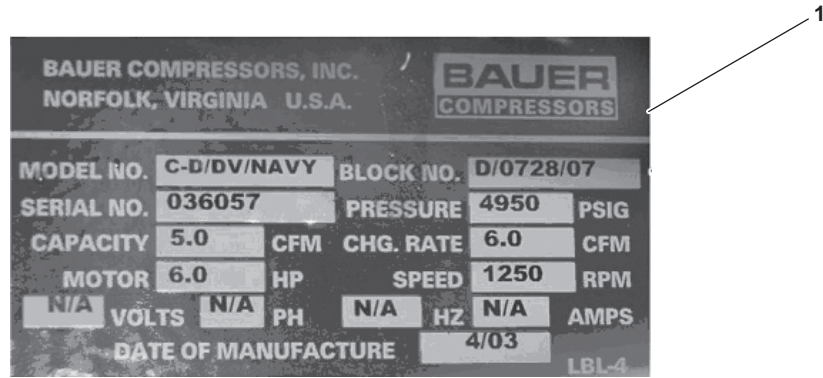

Figure 1-4. Identification Label
The E-BAC/SS compressor block number is located in the upper right corner of the identification label (figure 1-4, item 1) on the compressor frame. Identification labels may vary between E-BAC/SS models. The block number is broken down as follows: